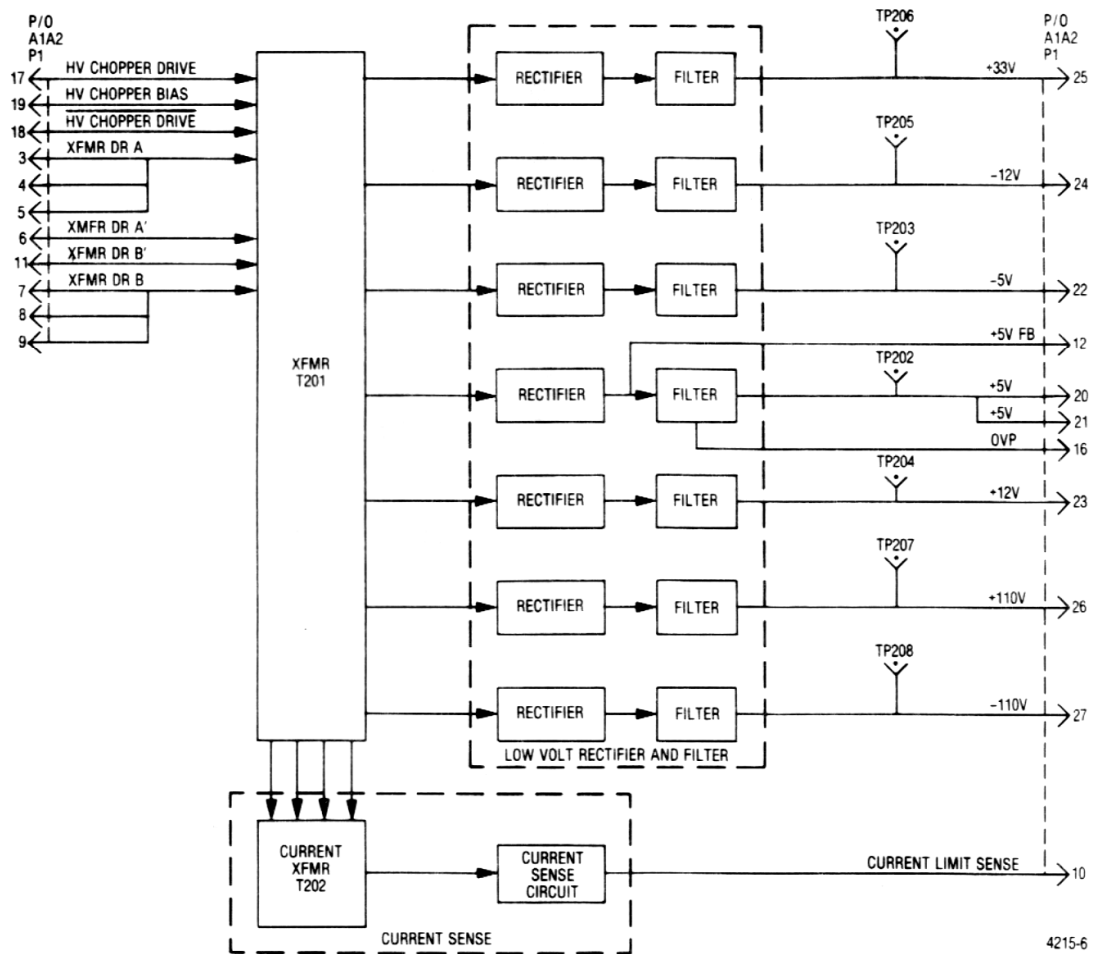

Figure 7-8. Low Voltage Power Supply Output Module A1A2 Block Diagram
17. **OUTPUT MODULE A1A2.** The output module (figure 7-8) provides the regulated output voltages and the current sense voltage for the overcurrent protection circuit. Input power is provided by signals XFMR DR A, A', B and B'. These signals are 20 kHz squarewaves and drive the primary windings of transformer T201. After full wave rectification and filtering, the nominal output voltages are available as shown in figure 7-8.